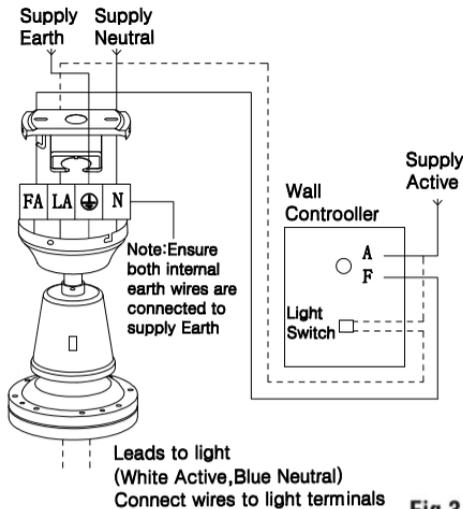

Fig 3.
7. The wall controller will fit on page 7 standard wall plate mountings. Wire the wall controller in accordance with Fig 3. Fit to wall. Fit screw caps.